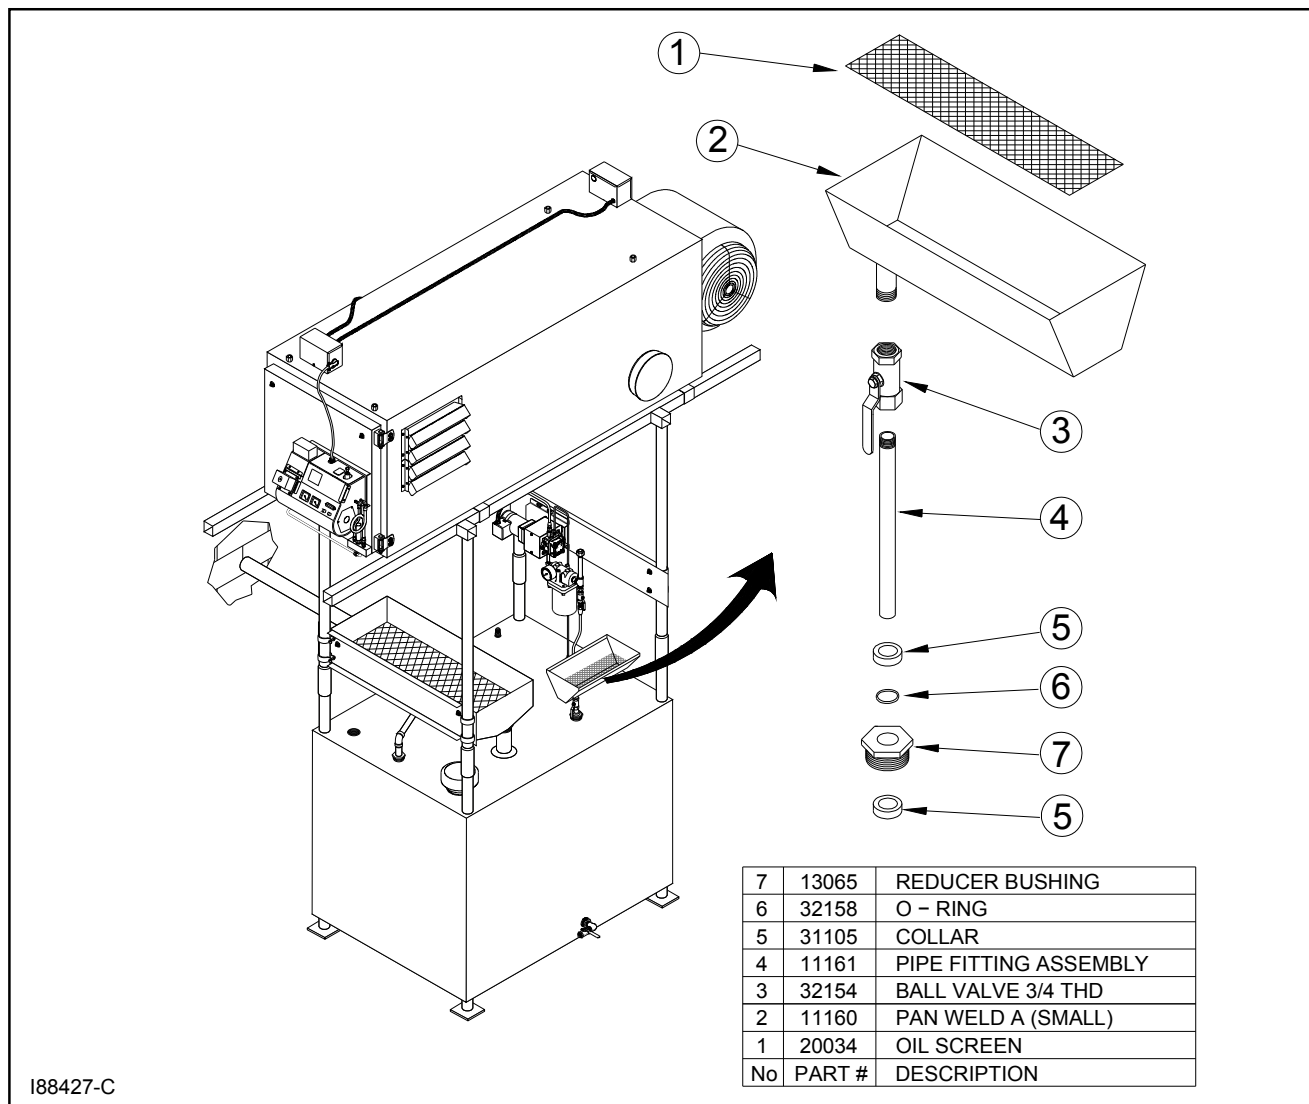

Figure 3L - Installing the Drain Pan Kit (Component Detail)
1. Refer to Figure 3L.
4. Install the reducer bushing into the appropriate tank bung as shown in Figure 3L, and tighten.